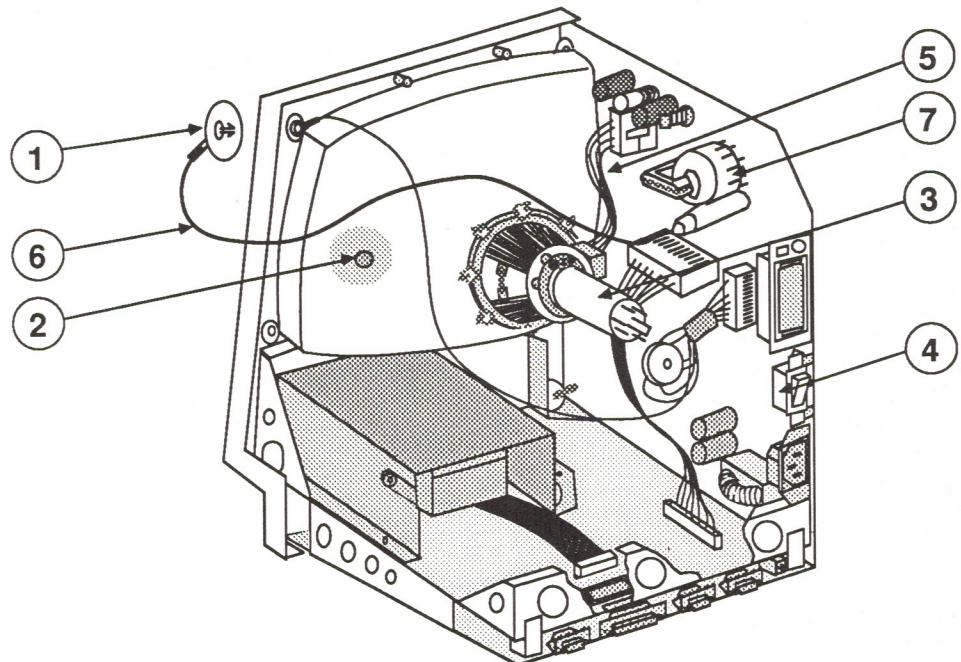

FIGURE 1
High voltage (approx. 12,000 volts DC) can be present on the anode (Figure 1, #2) and other components—even when power is off. Discharging the anode reduces the risk of injury.
Normally the anode aperture (Figure 1, #2) has a connector plugged into it (Figure 1, #1). When a CRT is replaced, the anode connector is removed, exposing the anode. The anode can retain a charge of several thousand volts (even when power is off), and can regain some charge even after it has been discharged.
To prevent an implosion, you should take every precaution against breaking the tube. Be especially careful with the neck (Figure 1, #3), the area where the tube is the thinnest.
- The back of the power switch (Figure 1, #4)
- The yoke wires (Figure 1, #5)
- The anode connector (Figure 1, #1)
- The anode wire (Figure 1, #6)
- The flyback transformer (Figure 1, #7)